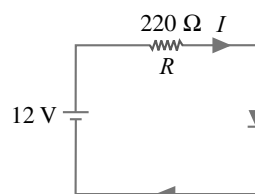

Fig. 4.9
**Example 4.9.** In the circuit shown in Fig. 4.9, the current  $I$  is 51.63 mA. What is the voltage drop across the diode? What is the d.c. resistance of the diode?